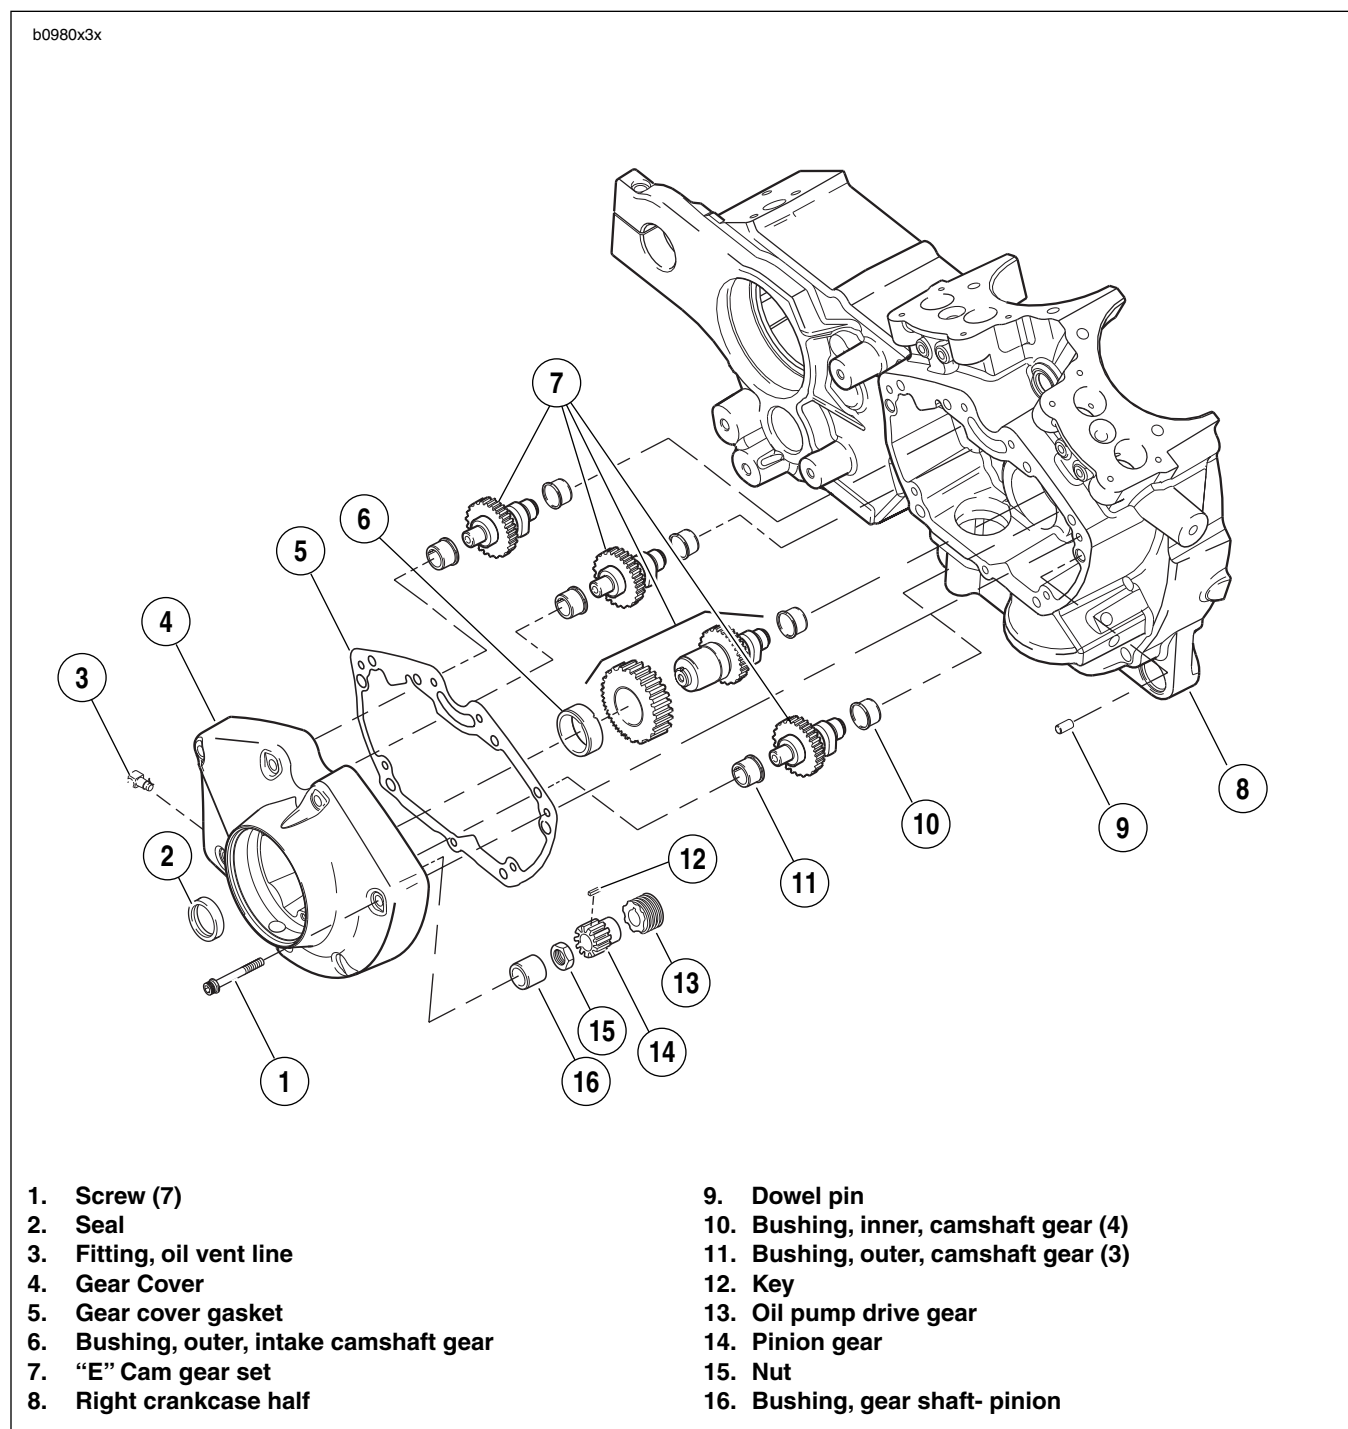

Figure 3-126. Gearcase Cover & Cam Assembly
1. See Figure 3-126. Thoroughly clean area around gearcase cover and tappets. Blow loose dirt from crankcase with compressed air.
2. See Figure 3-126. Install pinion nut.
3. See Figure 3-126. Liberally apply engine oil to bushings, shafts, and gears. Install all cam gears into bushings of right crankcase half, properly aligning timing marks of cam gears and pinion gear.
4. See Figure 3-126. Install a **new** seal and **new** dry gear cover gasket on crankcase.